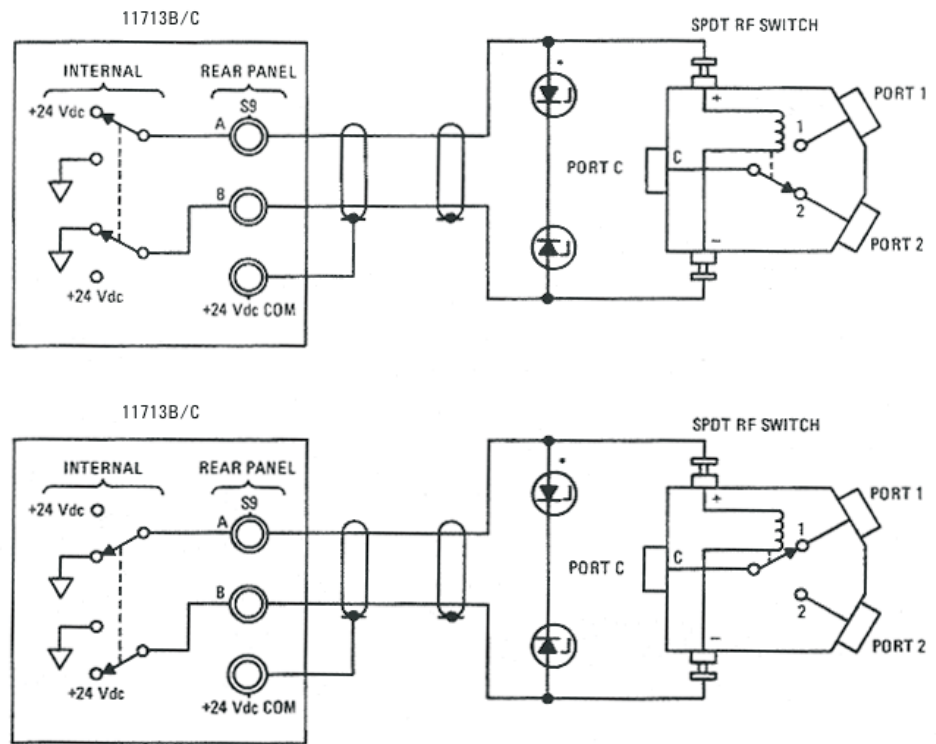

Figure 10 Typical connection for 8761 series coaxial switches
- **Figure 10** illustrates the rear panel connections to S9 outputs and the corresponding switch positions reflected by pushbutton indicators.